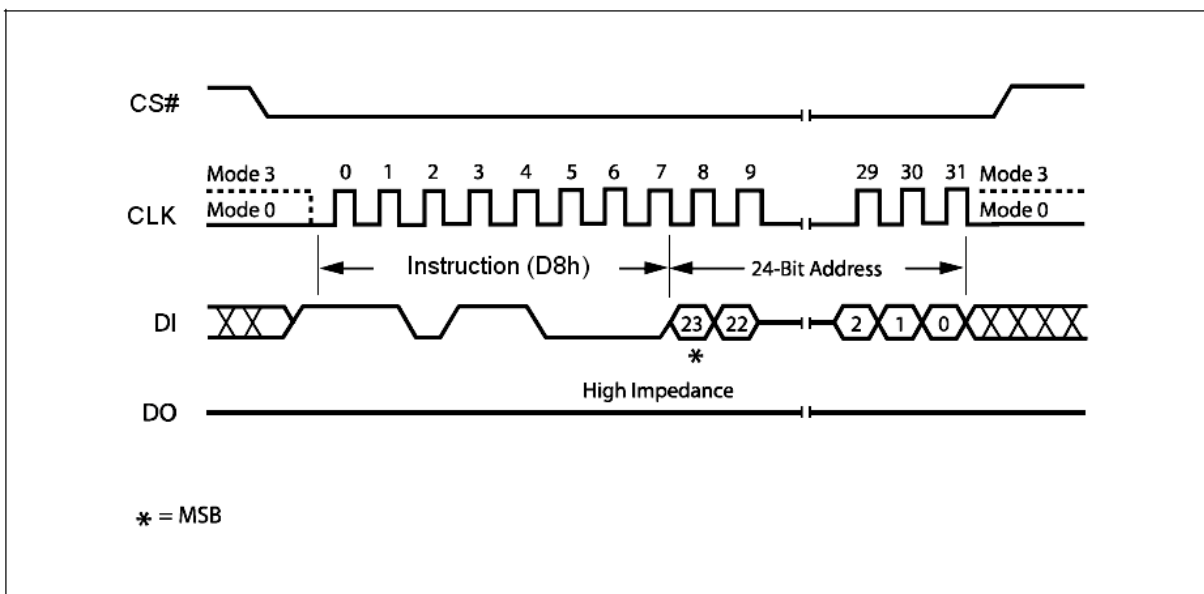

Figure 24. 64KB Block Erase Instruction Sequence Diagram
The instruction sequence is shown in Figure 24. Chip Select (CS#) must be driven High after the eighth bit of the last address byte has been latched in, otherwise the Block Erase (BE) instruction is not executed. As soon as Chip Select (CS#) is driven High, the self-timed Block Erase cycle (whose duration is t_{BE}) is initiated. While the Block Erase cycle is in progress, the Status Register may be read to check the value of the Write In Progress (WIP) bit. The Write In Progress (WIP) bit is 1 during the self-timed Block Erase cycle, and is 0 when it is completed. At some unspecified time before the cycle is completed, the Write Enable Latch (WEL) bit is reset.